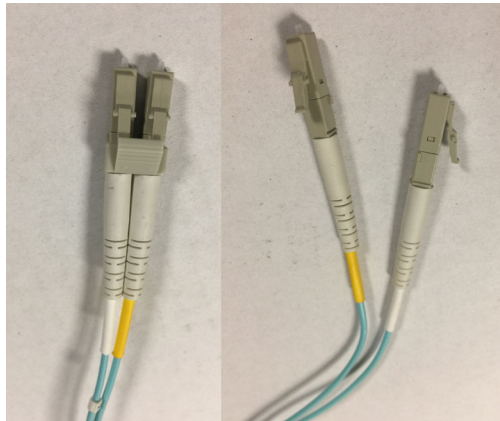
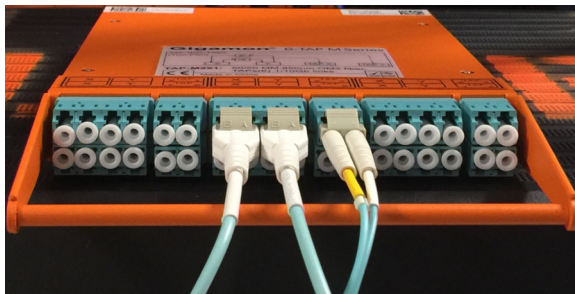
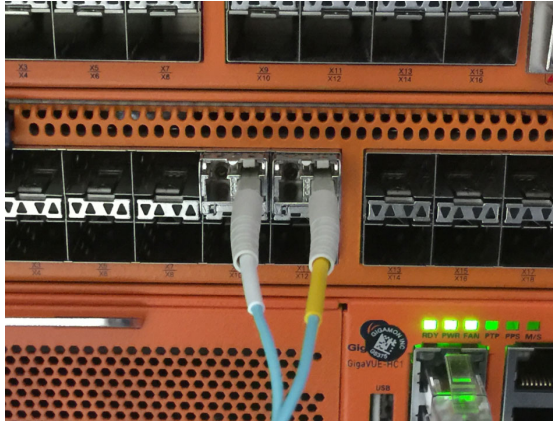

Figure 3-10: LC Connectors
Figure 3-11: LC Connectors connected to TAP
Figure 3-12: LC Connectors connected to GigaVUE Node
- a. When you connect the other ends of the single fiber cable to the GigaVUE node, make sure you only connect to the receiving half (Rx) of the network port. As specified earlier, transceivers have arrows indicating traffic direction. Only connect to the side of the transceiver with the arrow pointing in, to receive the traffic. Leave the transmitting half (Tx) of the port unconnected. Refer to Figure 3-10, Figure 3-11, and Figure 3-12.